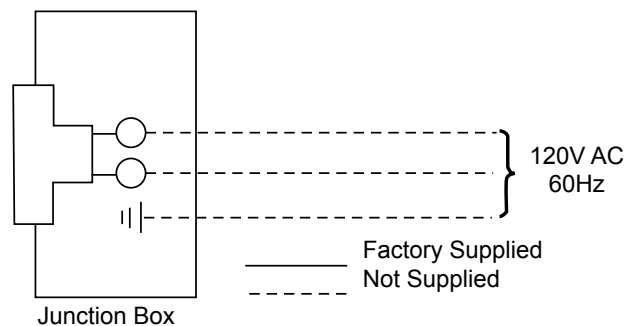

Figure 34 - Junction Box Wiring Diagram
3. The junction box cover has a factory installed "romex" style strain relief connector. After connecting the wires, route the wire leads through this connector. Refer to the wiring diagram in Figure 34.